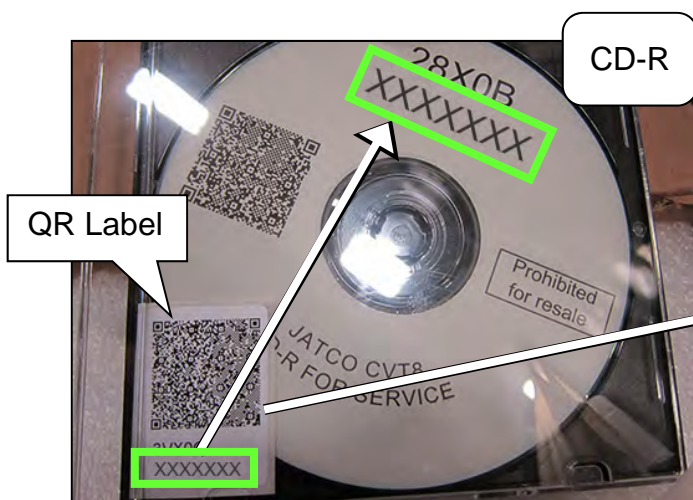
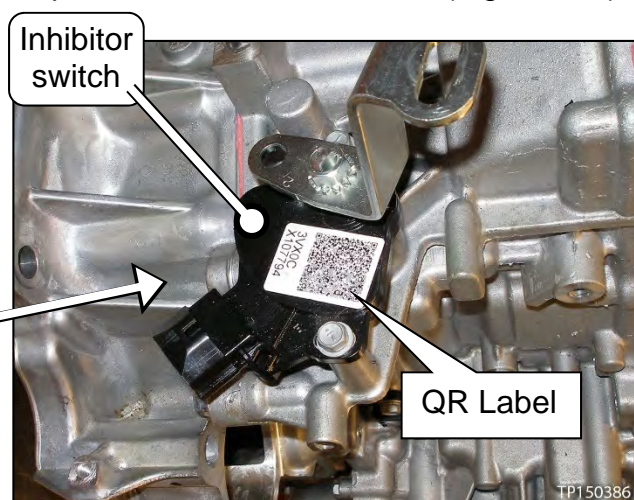

Figure 152
Figure 153
129. Attach the QR label (Figure 153) with the new calibration data onto the transmission range switch (inhibitor switch Figure 152).
- Confirm that the QR label and the CD-R part numbers are the same (Figure 153).